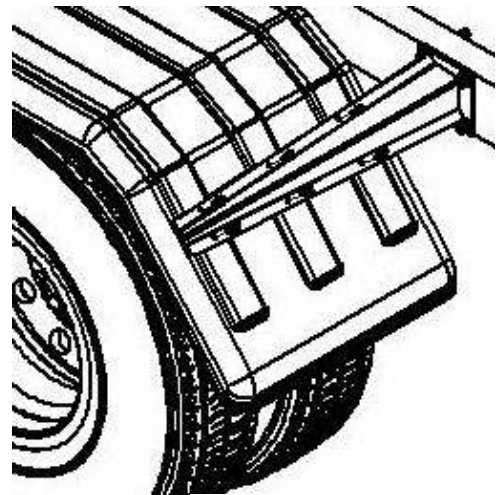

Figure 10
- e. Make sure the fenders are square and aligned (Figure 10). Twists or bows in the fender will fatigue the material over time.